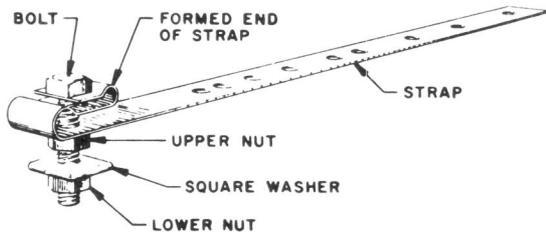

Fig. 50—L Ground Clamp
6.23 The L ground clamp (Fig. 50) is used to terminate No. 6 ground wire and is installed in the following manner: